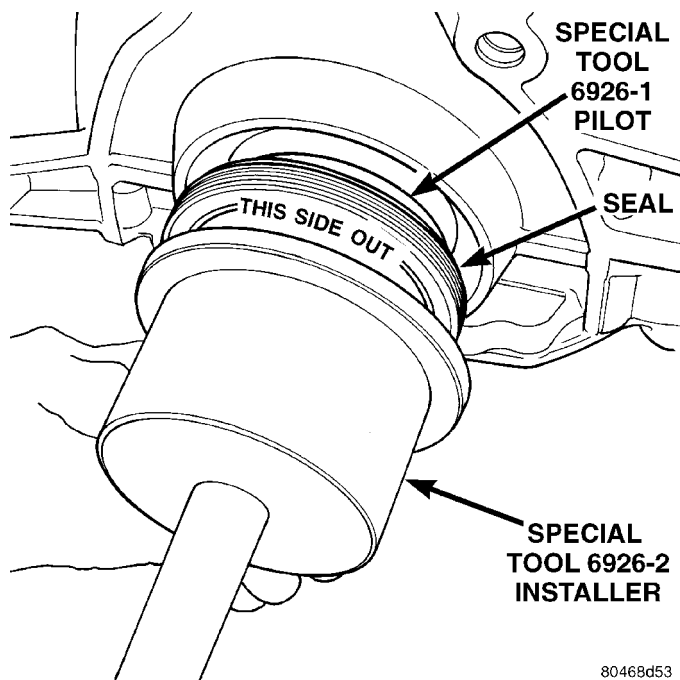

Fig. 64 Crankshaft Seal Special Tool 6926-2
(3) Drive the seal into the block using Special Tool 6926-2 and handle C-4171 (Fig. 64) until the tool bottoms out against the block (Fig. 65).